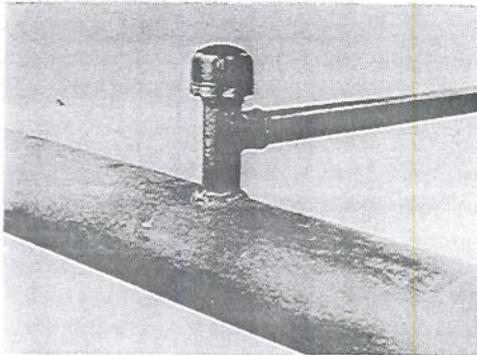
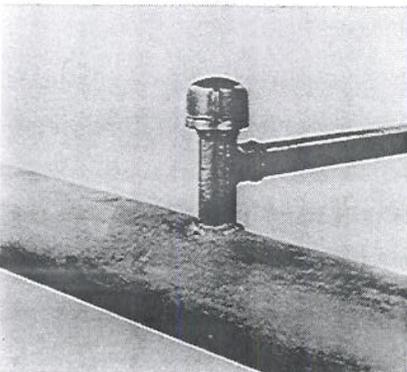
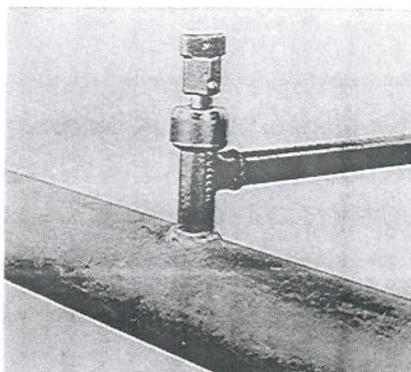

FIGURE 18
FIGURE 19
FIGURE 20
- 11a. For Service Tees. **Figure 18.**
- (1) Tighten completion plug with completion plug wrench.
- (2) Apply non-hardening pipe thread "dope" to completion cap threads and screw cap tightly on Tee.
- 11b. For Valve Tees. **Figure 19.**
- (1) Tighten bushing with completion plug wrench.
- (2) With screw driver turn stem **counter-clockwise** to back seat against the bottom of the bushing.
- (3) Apply non-hardening pipe thread dope to completion cap threads and screw cap tightly on Tee.
- 11c. For Curb Valve Tee. **Figure 20.**
- (1) Lubricate both "O" rings and tighten cap tightly on Tee.
- (2) Replace tee handle.
- (3) Open the valve by turning tee handle **counter-clockwise**.